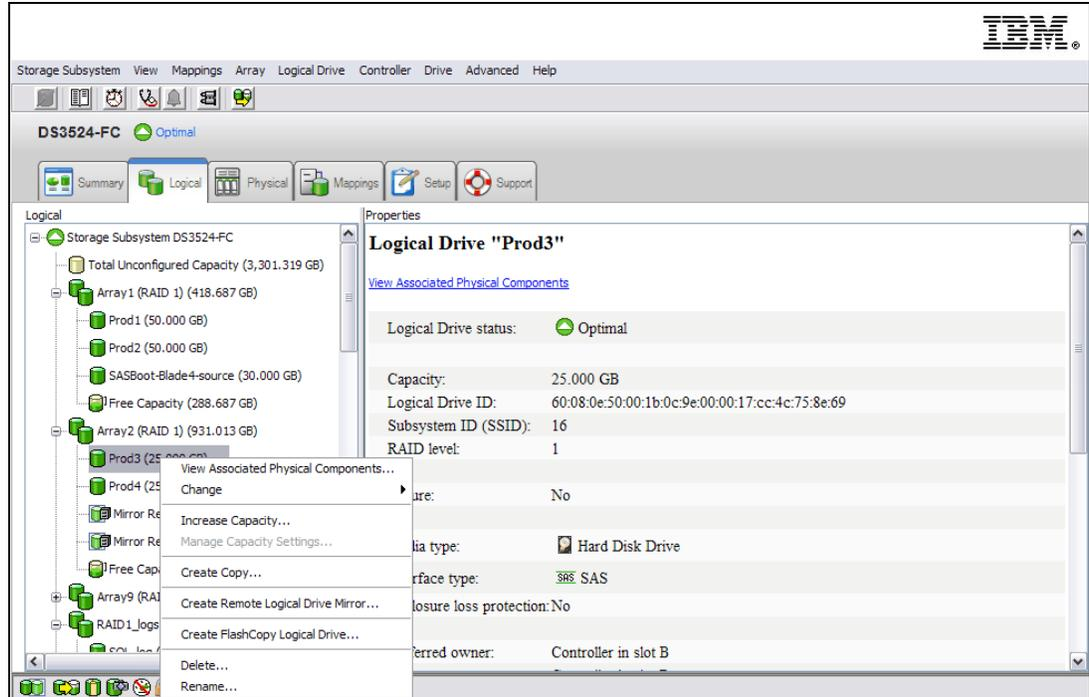

Figure 5-15 Select primary logical drive from logical view
1. Select a logical drive in the logical view of the designated primary storage subsystem and select **Logical Drive** → **Remote Mirroring** → **Create**. (Or right-click and select **Create Remote Logical Drive Mirror** from the pop-up menu (Figure 5-15).